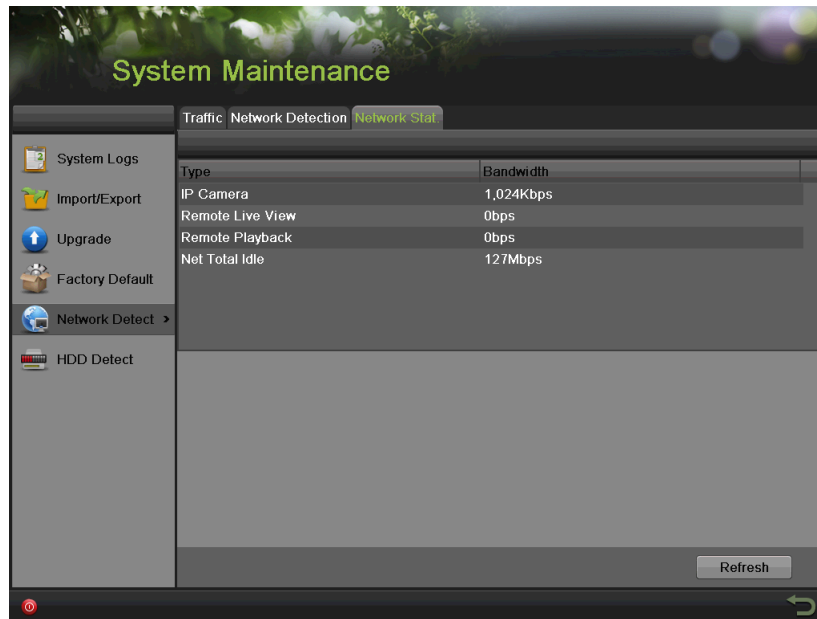

Figure 176 Network Stat. Interface
2. Select the Network Stat. tab to enter the Network Stat. menu, as shown in Figure 176.